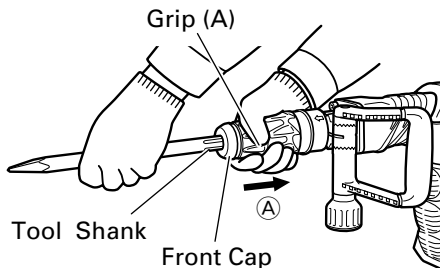
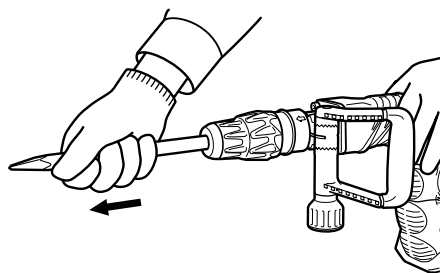
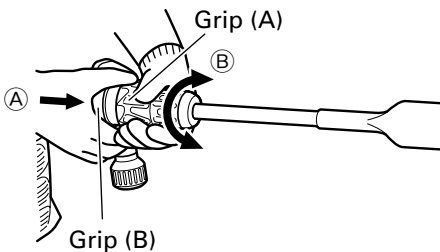

Fig. 2
Fig. 3
Fig. 4
- (1) Clean the shank portion of the tool.
- (2) As shown in Fig. 2, pull grip (A) in the direction of Ⓐ, and insert the tool into a hole of the front cap.
- (3) Adjust the groove position while turning the tool, and furthermore insert it until it hits the end of the hole.
- (4) Return grip (A) to its original position, pull the tool to make sure it is locked completely. (Fig. 3)
- (1) As shown in Fig. 4, the blade angle can be freely changed if the grip (A) is turned in the direction of Ⓑ in a state where grip (B) is slid in the direction of Ⓐ.
- (2) Release grip (B) and turn the tool, and make sure that it is locked completely.
As shown in Fig. 2, pull grip (A), and pull out the tool.